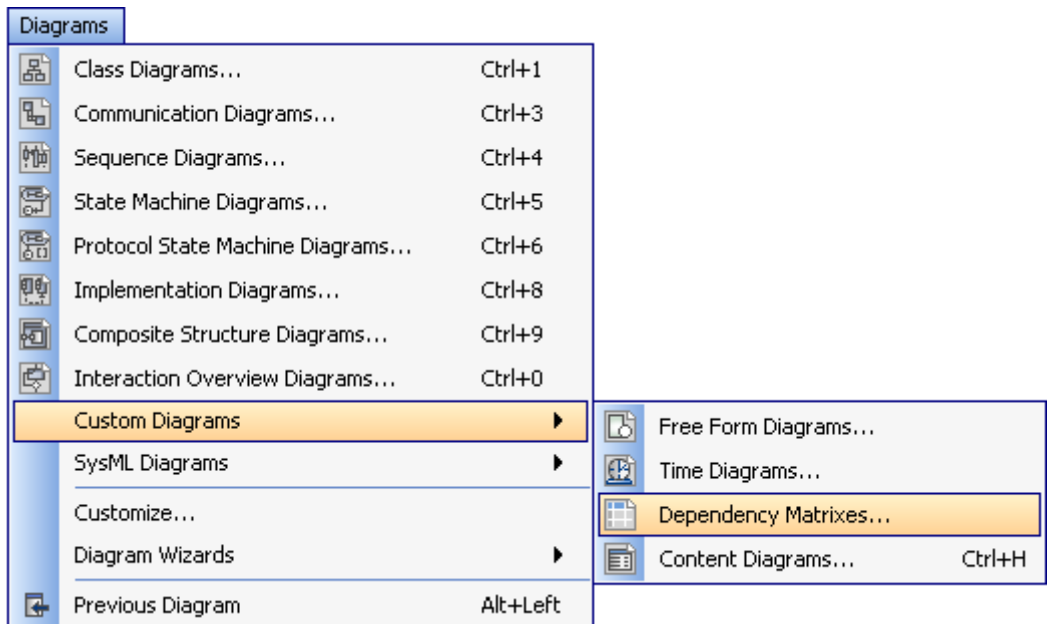

Figure 250 -- Opening Dependency Matrix from Diagrams Main Menu
- Diagrams main menu (Figure 250)